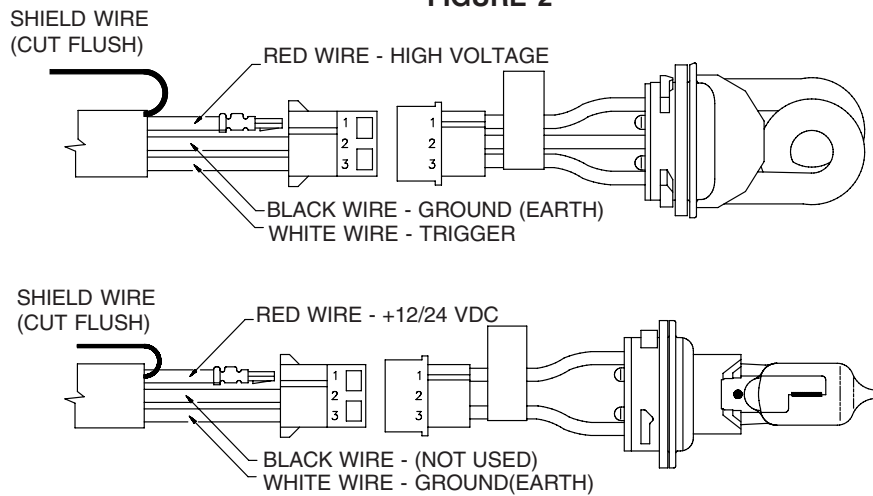

FIGURE 3
5. At the light head end of the cable, insert the 3 AMP sockets into the AMP socket housing as shown in Figure 3. Cut the shield wire flush with the jacket. (Halogen Lamp Assemblies are shown. Procedure is the same for Strobe Lamp Assembly.)